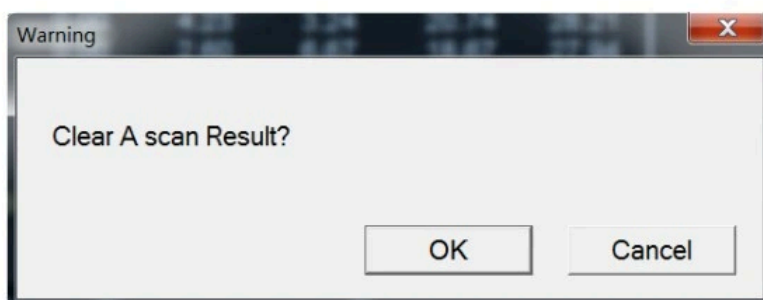

Figure 4-5-3 Prompt Dialog Box for Clearing Measured Readings
10. Clear current readings for re-measurement: Click to clear current readings, and measure the patient again. Click or tread on the footswitch, there is a dialog box for indicating whether to clear the current readings (shown in Figure 4-5-3), and click to clear the readings and start scanning again, or click to give up current operation.